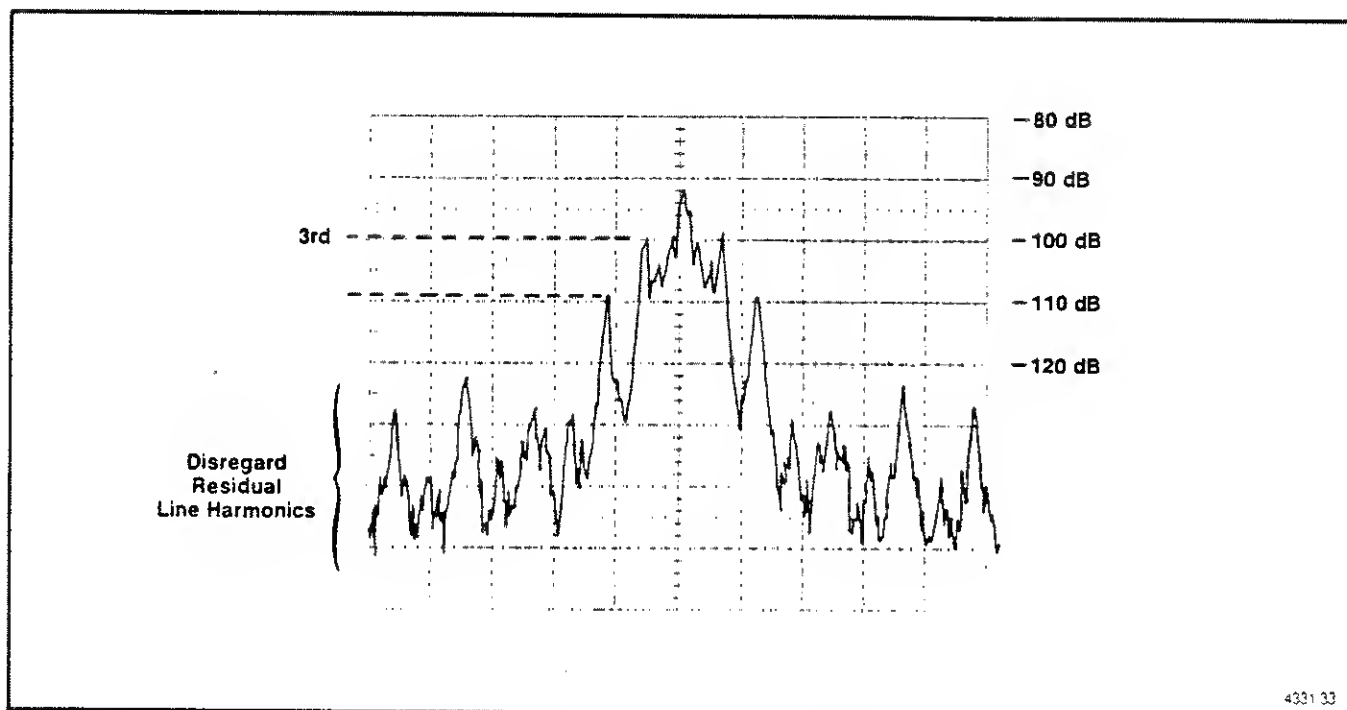

Fig. 5-5. 10 Hz harmonic distortion display.
e. Note the 2nd, 3rd, 4th, and 5th harmonics on the displayed waveform (see Fig. 5-5). If the harmonic amplitudes on either side of the 0 Hz are slightly different, average the two readings for each harmonic.